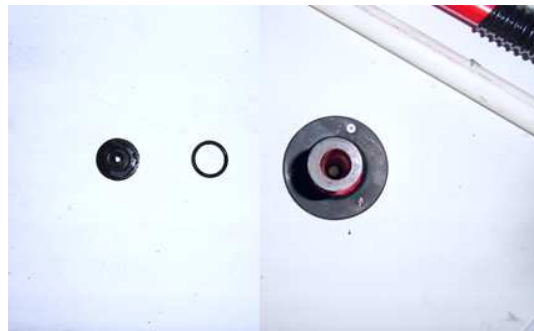

Figure 6 – Installation of the restriction plate
10. Mount the restriction assembly, by using the restriction disc (plate) with the required hole size, see Figure 6.